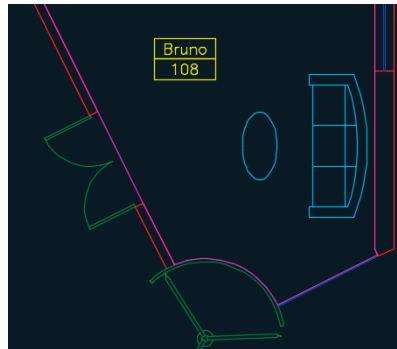

FIGURE 15.14 Inserting a block and entering its attribute values
- Click a point in the center of the room on the upper right. Press Enter to accept the default of 0 degrees if prompted to specify a rotation angle. In the Edit Attributes dialog box that appears, type **Bruno** in the Employee Name text box and type **108** in the Identification Number text area. The block reference appears in the room with the values you typed in (see Figure 15.14).